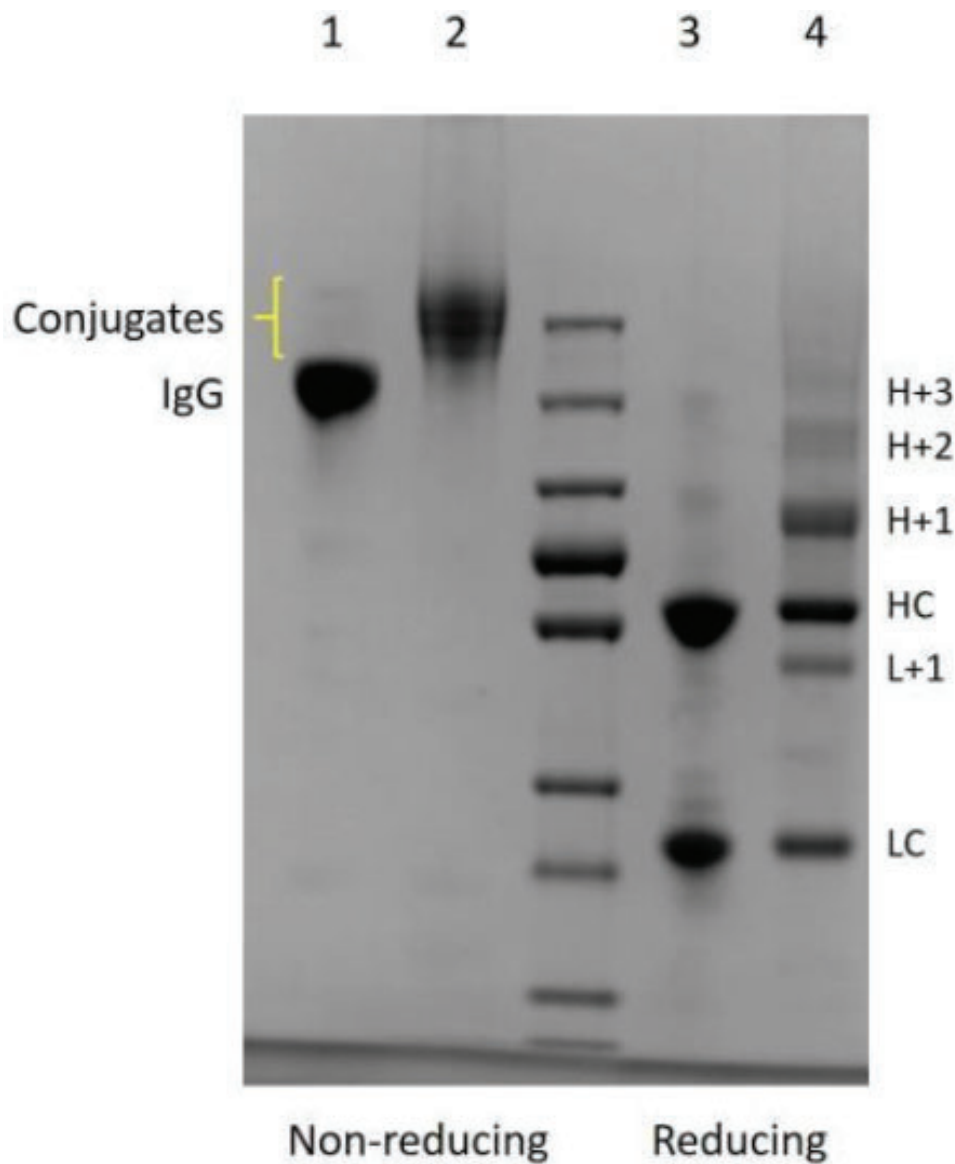

Fig 1.
12.3. An example is shown in Fig. 1 with a polyclonal antibody. The gel has been deliberately overloaded (~4  $\mu\text{g}$  of antibody conjugate and IgG) to illustrate the band patterns more clearly, especially the quantitatively minor bands in the reducing half of the gel (Fig. 1, Tracks 3 and 4) i.e. those with two or more oligos attached. On the non-reducing half of the gel (Tracks 1 and 2), the block of overlapping conjugate bands (Track